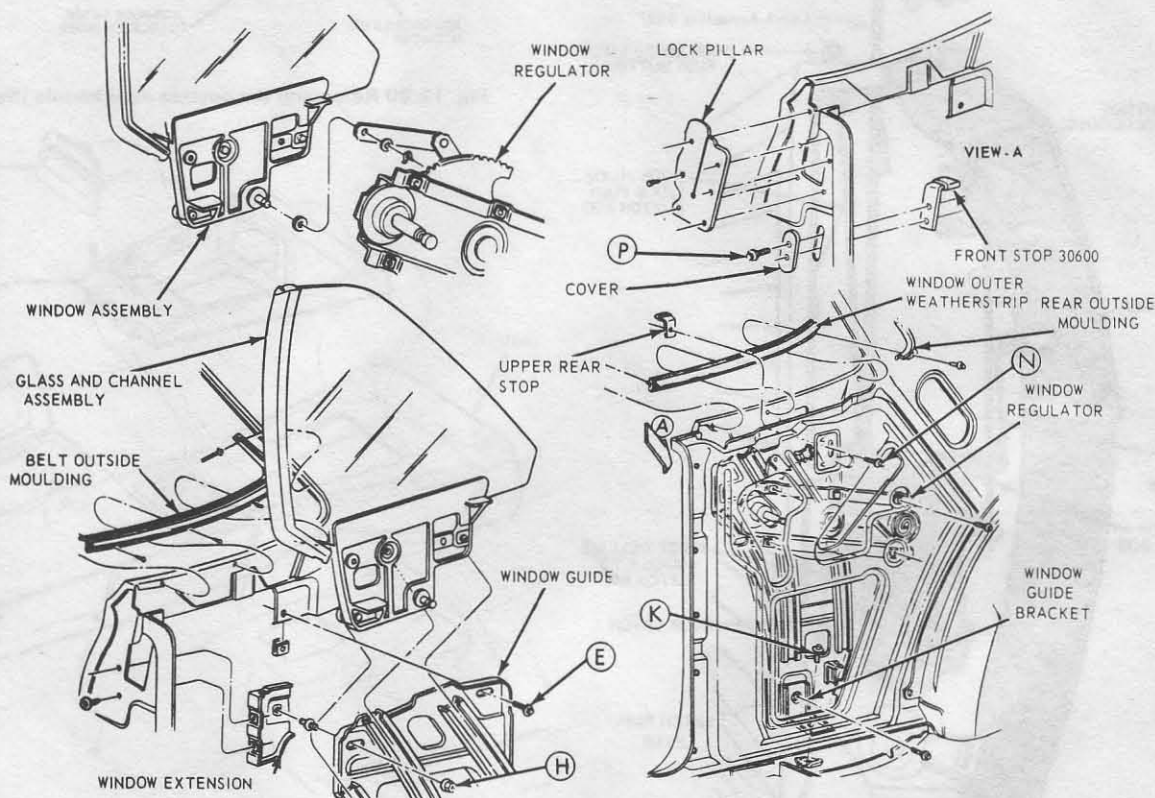

Fig. 12.17 Quarter window mechanism – Hardtop and Convertible (Secs 22 and 24)
- 6 Lower the glass fully and disengage the regulator arm from the glass channel. Remove the upper front and rear stops (see Fig. 12.17).
- 2 Refer to Fig. 12.17, and loosen screws E, H, K, N and P.